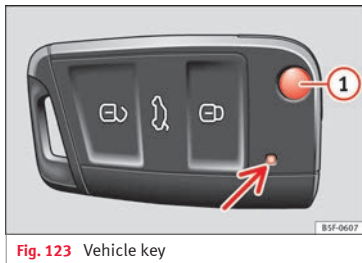
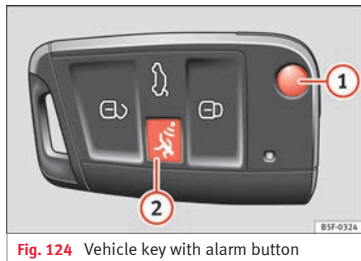

Fig. 123 Vehicle key
Fig. 124 Vehicle key with alarm button
When a button on the vehicle key is pressed, the control lamp flashes » Fig. 123 (arrow) once briefly, but if the button is held down for
Press button ① » Fig. 123 or » Fig. 124 to unlock and unfold the key shaft.
- If the buttons of the vehicle key are pressed » Fig. 123 or » Fig. 124 or one of the central locking buttons » page 119 is pressed repeatedly in short succession, the central locking briefly disconnects as protection